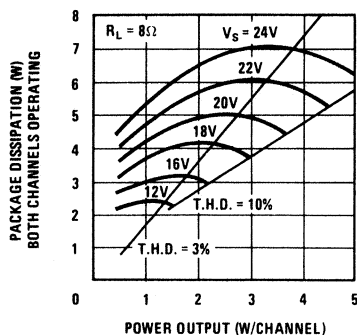

FIGURE 4.14.2 Power Dissipation vs. Power Output
Package dissipation is read directly from the "Power Dissipation vs. Power Output" curves that are found on all of the audio amp data sheets. Most data sheets provide separate curves for either 4, 8 or 16  $\Omega$  loads. Figure 4.14.2 shows the 8  $\Omega$  characteristics of the LM378.
When used for bridge configurations, package dissipation will be twice that found from Figure 4.14.2
1. From Figure 4.14.2,  $P_D = 7W$ .